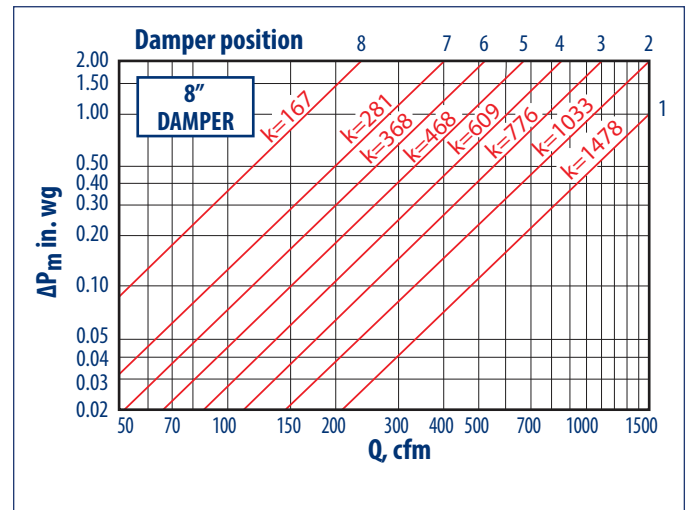

Figure 2: Airflow Adjustment Chart (Typical)
Each IRIS damper has two built-in airflow measurement pressure taps and an Airflow Adjustment Chart (Figure 2).
Based on Equation (1), Airflow Adjustment Charts (Figure 2) have been generated for all IRIS damper models. For each size, eight different damper position blade setting curves are provided (#8 represents the smallest aperture), along with their 'k' values. These charts are used for air balancing and determining precise airflow through the damper.
Note: The Airflow Adjustment Charts (Figure 2) differ from the IRIS Damper Selection Curves shown previously (Figure 1), and should not be used for selection purposes.